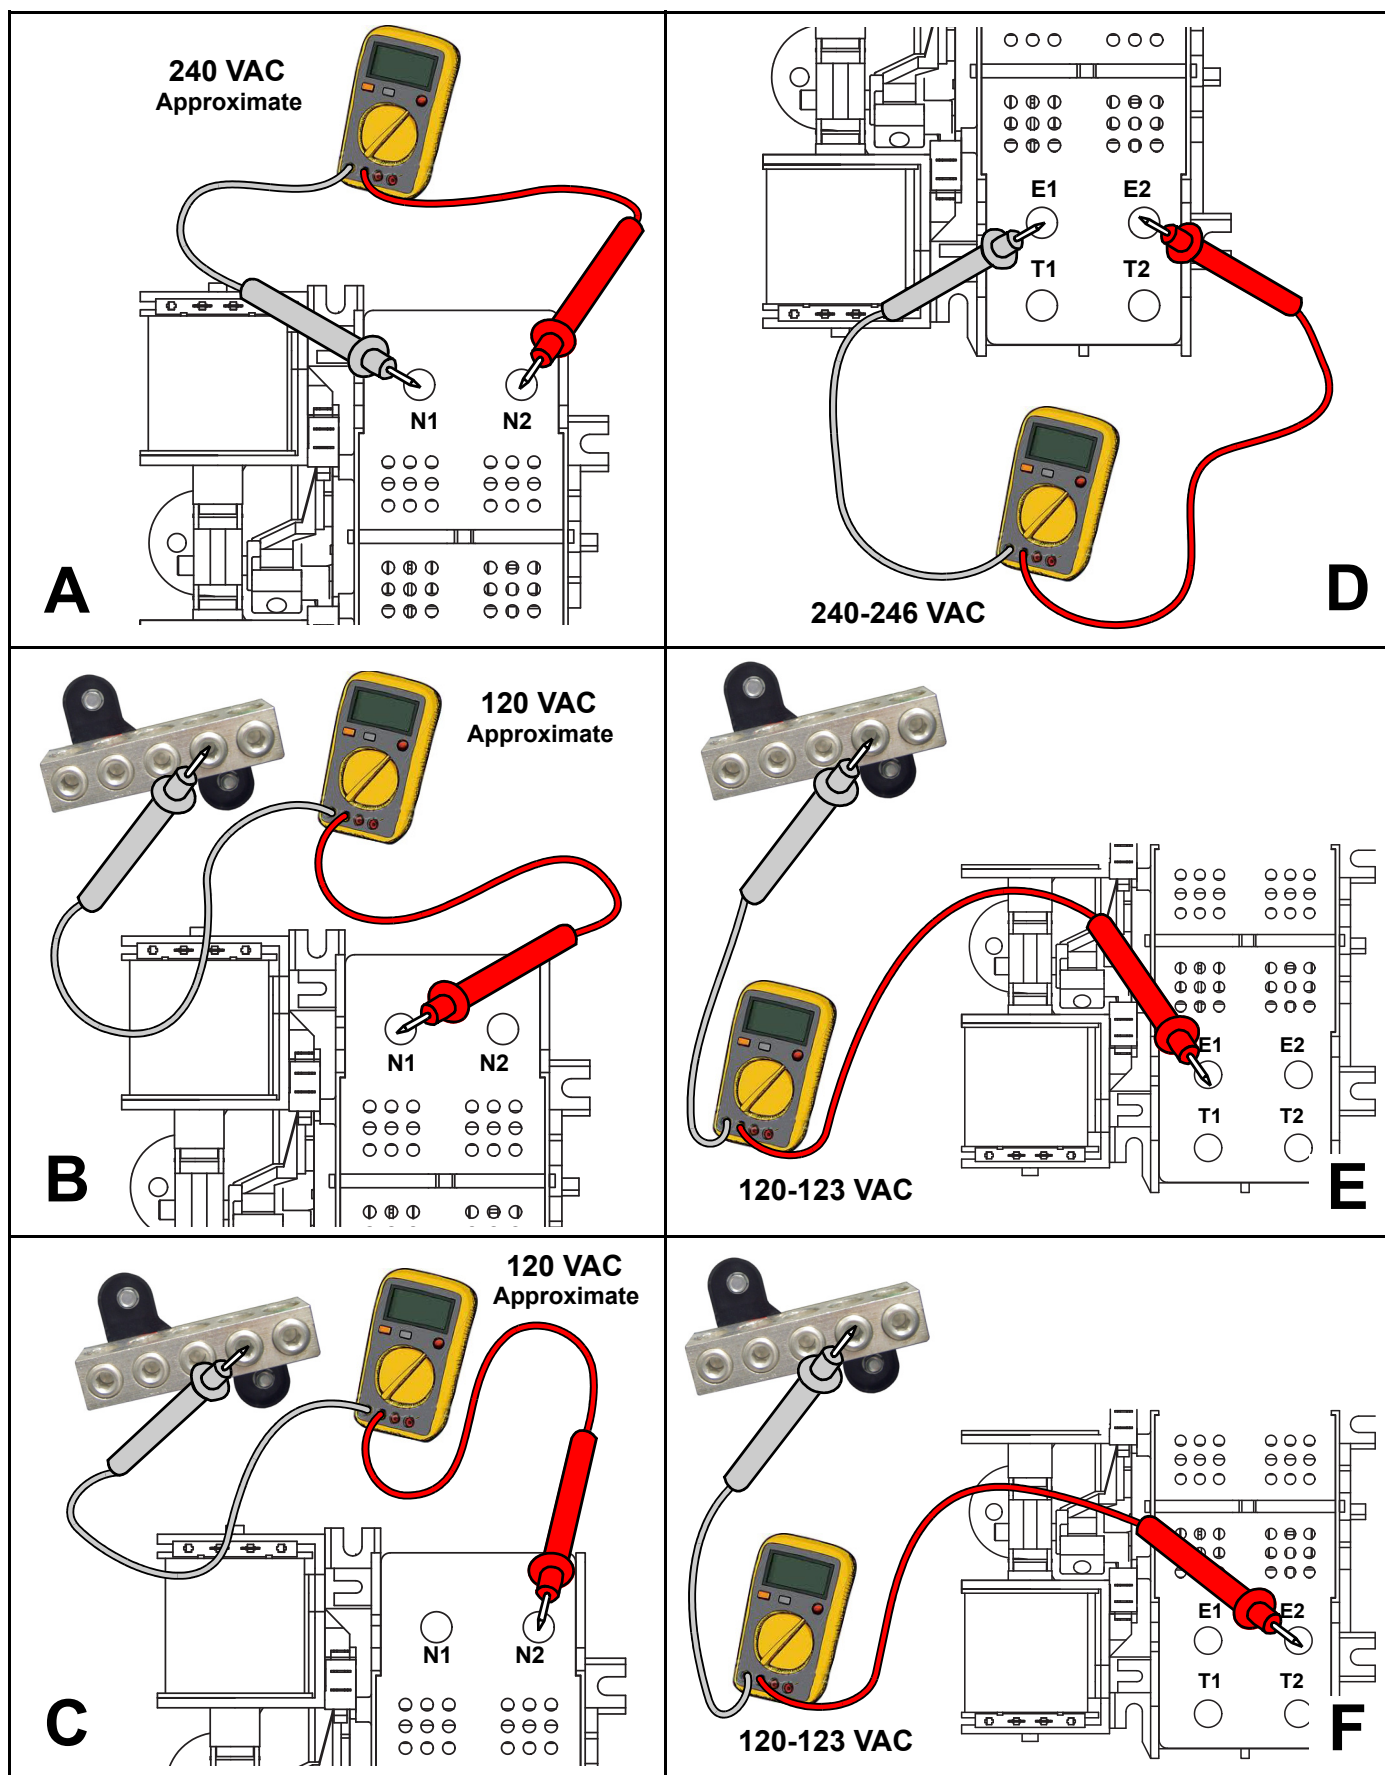

Figure 6-4. Voltage Checks
3. Using an AC voltmeter, verify that no load voltage measured across the transfer switch terminals is as follows. See A, B, and C of Figure 6-4.
8. Using a frequency meter and AC voltmeter, verify that frequency and no load voltage measured across the transfer switch terminals is as follows. See D, E, and F of Figure 6-4.